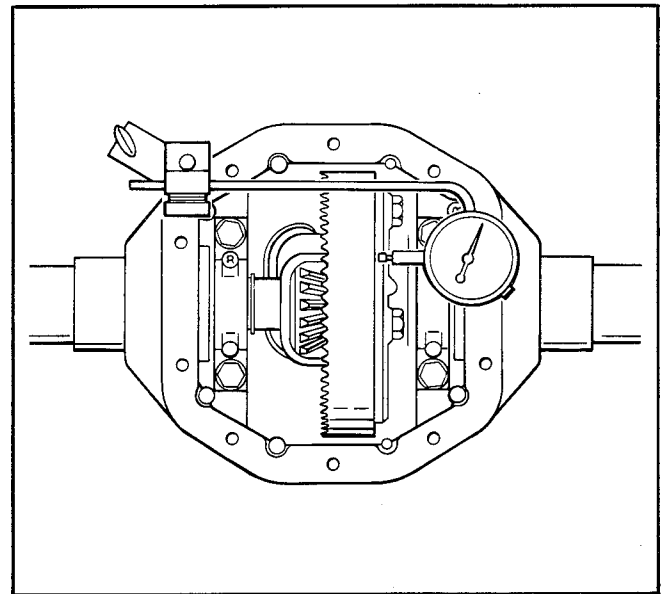

Figure 20 – Ring Gear Runout Check
e. Check "ring gear runout" with dial indicator, Figure 20. Place contact point of dial indicator on back face of ring gear. Rotate ring gear one complete revolution. Maximum runout is .006 in. (.15 mm). Reading in excess of specification indicates loose or warped ring gear, dirt or burr on ring gear mounting surface, or sprung differential case.